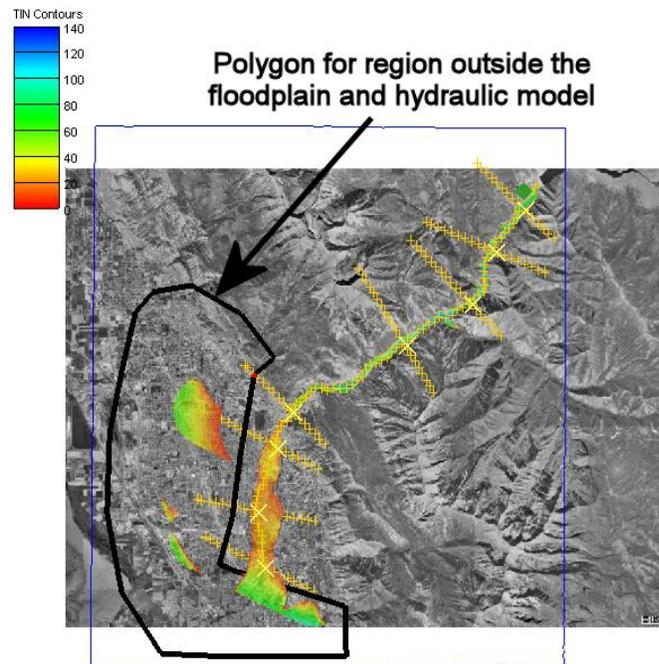

Figure 4-1: Creating a polygon for regions outside the model extents
17. Using the **Create Feature Arcs** tool, draw an arc representing a polygon around the extra data that needs to be deleted. This includes areas clearly outside of the floodplain and areas where data does not exist to give accurate results, such as outside the extents of the hydraulic model (see Figure 4-1). WMS will ignore the areas inside this polygon when delineating the floodplain. Be sure the arc forms a closed loop.